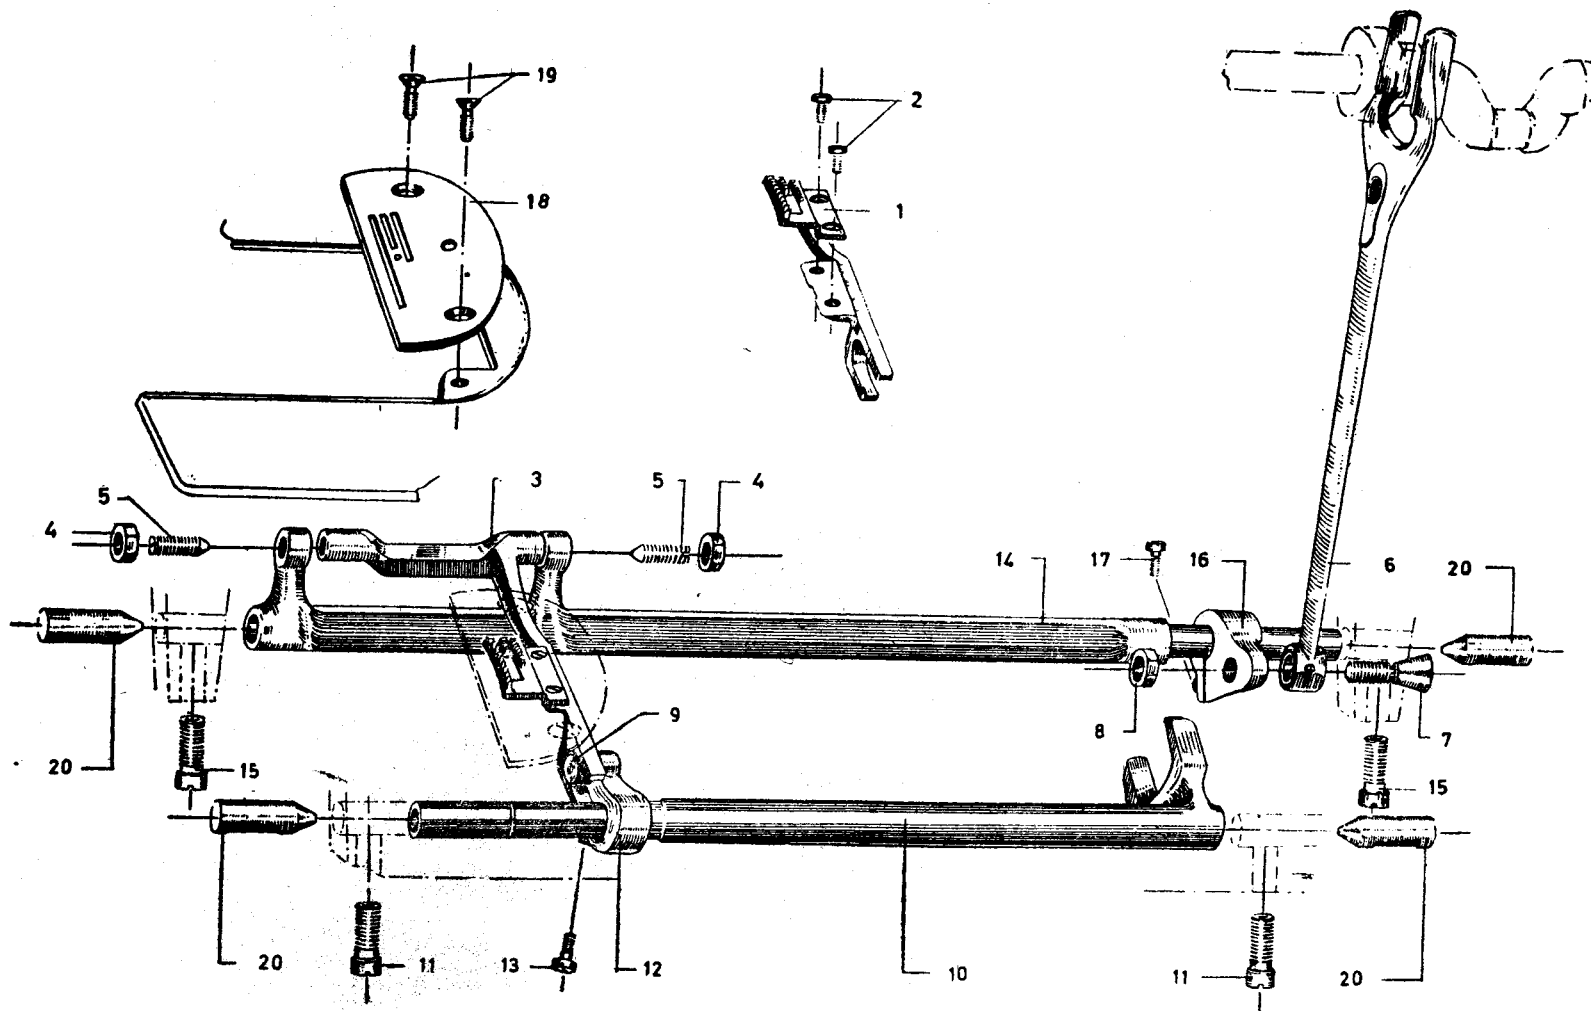

FIG. 6 FEED FORK, FEED ROCK SHAFT AND FEED LIFTING ROCK SHAFT ASSEMBLY
**2.6 Feed Fork, Feed Rock Shaft and Feed Lifting Rock Shaft Assembly — See Fig. 6 and 6A.**